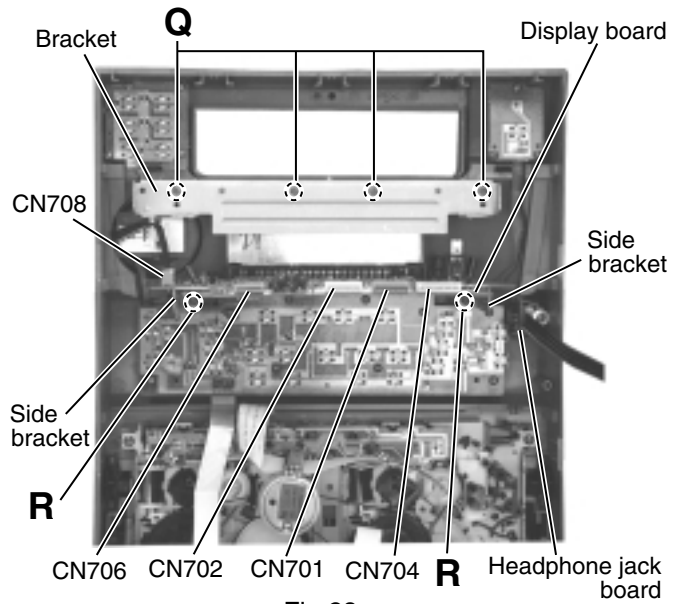

Fig.28
**■ Removing the display board and the side brackets (See Fig.28 and 29)**